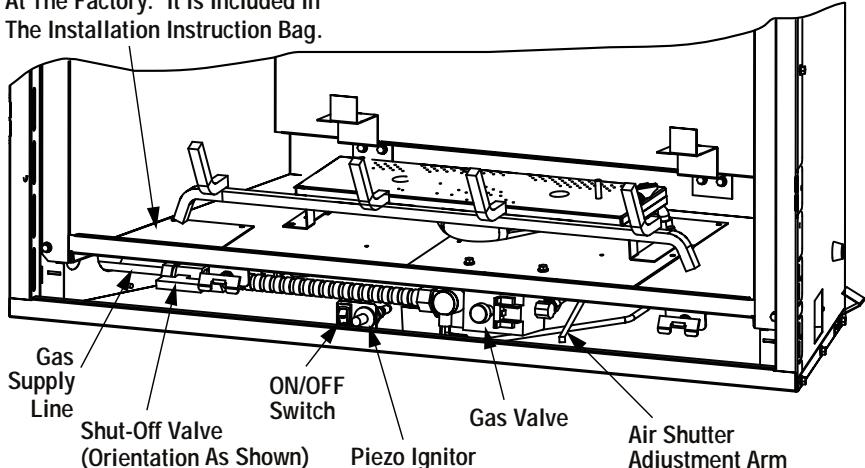
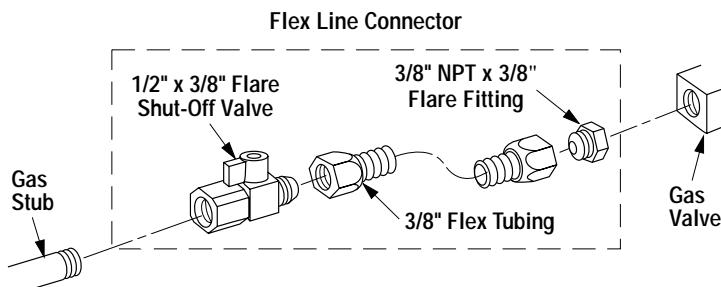

Figure 39
Figure 38 - GAS CONNECTION
All codes require a shut-off valve mounted in the supply line. The orientation of the shut-off valve should face the front, as shown in *Figure 39*. *Figure 38* illustrates the method for connecting the gas supply.
The gas flex line can only be used where local codes permit. See *Figure 38* for flex line description. The flex line is rated for both natural and propane gas. A manual shut off valve is also provided with the flex line.
If required, access the valve by removing the lower control compartment panel (*see Figure 39*) by lifting and pulling the panel forward. The millivolt and electronic control valve has a 3/8" (10 mm) NPT thread inlet port.
Remove the gas line access plate and gasket from the provided plastic bag and install them over the opening, using the provided screws (4) as shown in *Figure 39*.
With gas line installed run initial system checkout before closing up the front of the unit. Follow the pilot lighting instructions provided in the Homeowner's Care and Operation Instructions. For piezo ignitor location see *Figure 39* on page 23 (millivolt appliances only).
Note: Lighting Instructions are also found on the literature tag tied to the gas piping next to the gas valve. To access the tag, open the lower control compartment door (*Figure 39* on page 23) by pulling the panel forward.
Observe the flame continuously. If it appears weak or sooty as previously described, adjust the air shutter by rotating the adjustment arm up or down (*refer to Figure 39*) until the flame appearance is as desired.